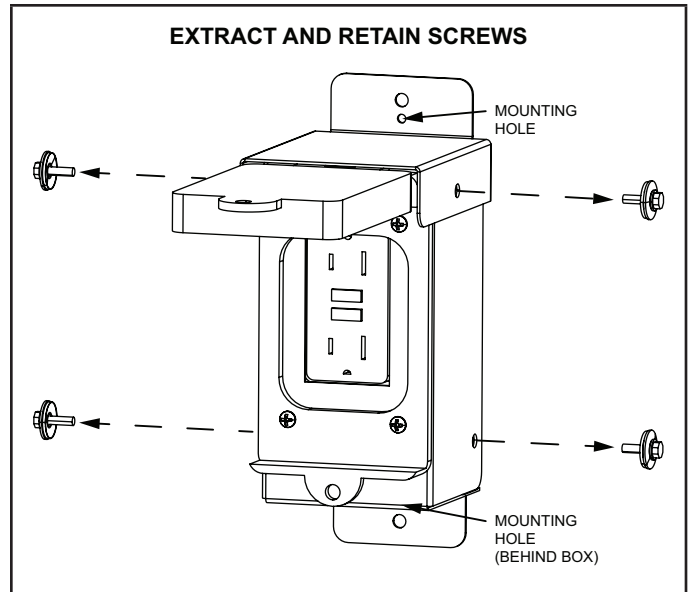

FIGURE 7
- 2 - Extract the 4 screws on the side of the GFCI to open the GFCI cover and connect the field wiring in field provided conduit. Use the retained screws to secure the cover. See FIGURE 7.